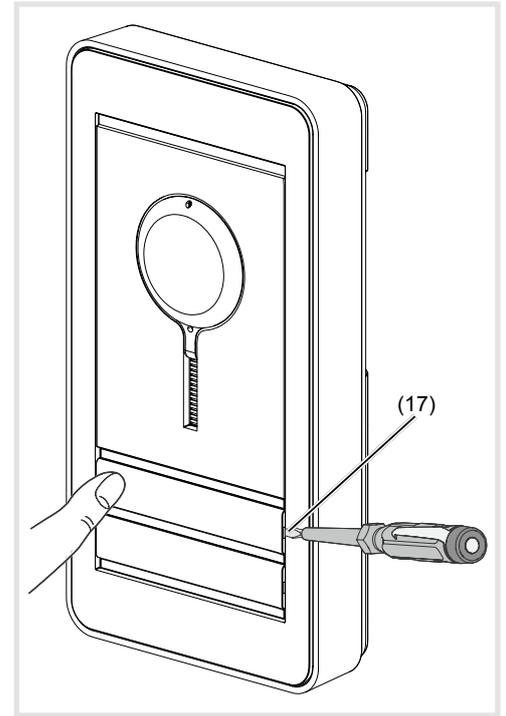

Figure 17: Removing name plate cover
- Press one side of the call push-button. The other side can be levered open (17) using a screwdriver.
- Insert the screwdriver into the lever opening system (17) and unlock the button (figure 17).